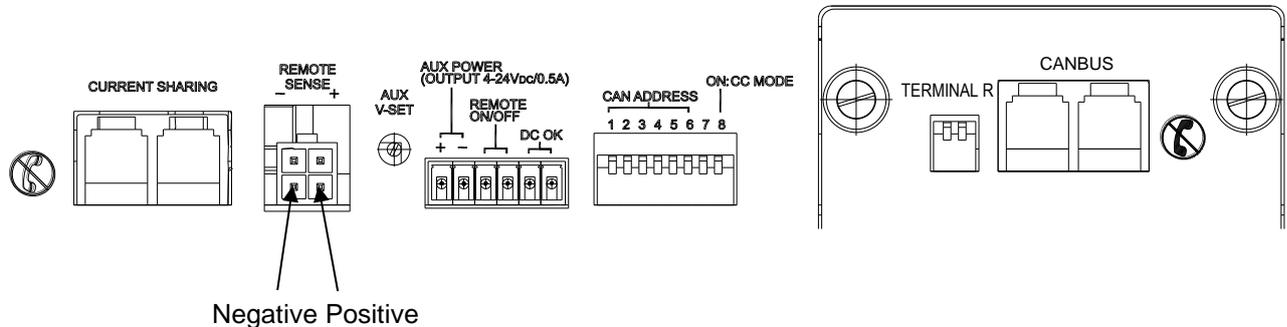

Figure 3-2
- b. Turn the external switch to ON. (Use Open/ Short SW to activate Remote ON/OFF as Figure 3-2 shows.)
- a. Turn the external switch to OFF----- see Figure 3-2.
2. Figure 3-2 shows the connection of Remote Sensing. Using two cables to connect the load positive/negative connector and the Remote Sensing Connector on the rear panel. The cable diameter has to be larger than 30AWG and the withstand voltage should be within specification.
As Figure 3-2 shows the polarity of the Remote Sensing Wire must be connected correctly, that is the “+” terminal should connect to the “+” of the output terminal or its extended cable, and so is for “-” terminal.